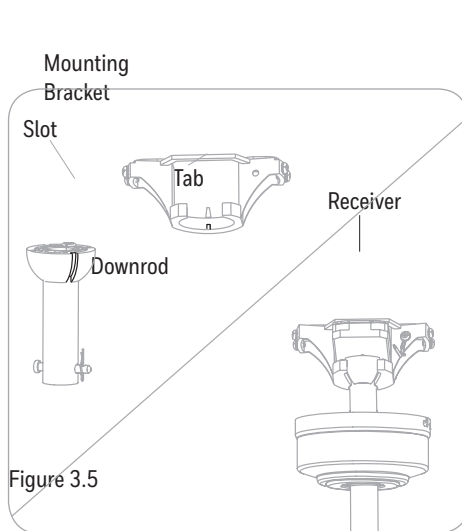

Figure 3.5
5. Install the ball end of the downrod into the opening of the mounting bracket (Figure 3.5). **WARNING:** Failure to align the slot in the ball with the tab on the mounting bracket may cause the fan to fall, which could result in injury or death. Then, insert the receiver inside the mounting bracket with the flat side facing the ceiling.